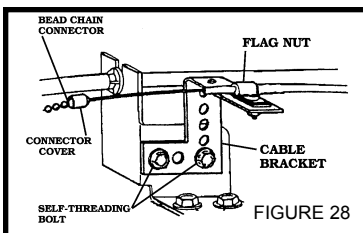

FIGURE 28
- c. The **TUBE CLAMP** may also be used to anchor the **CRUISE CABLE** using the **EXTENSION BRACKET**. **Figure 28**